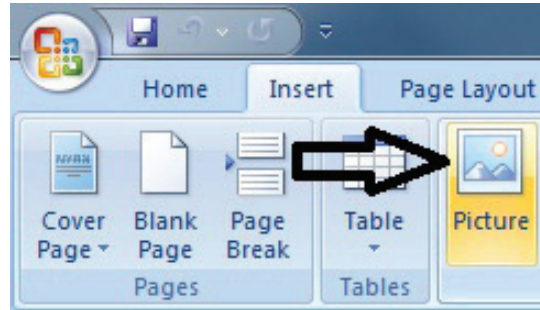

Figure R5.4 | *Word* Picture Insert Icon
F. Click  in the Insert Tab (Figure R5.4).